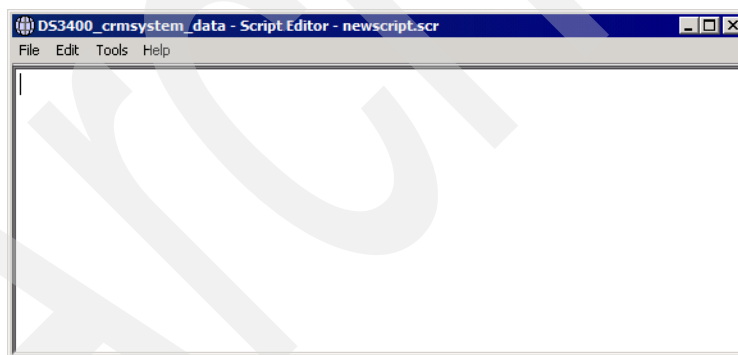

Figure C-2 Script Editor window
2. A blank Script Editor appears, as shown in Figure C-2. From here you can enter commands and save them for later execution.